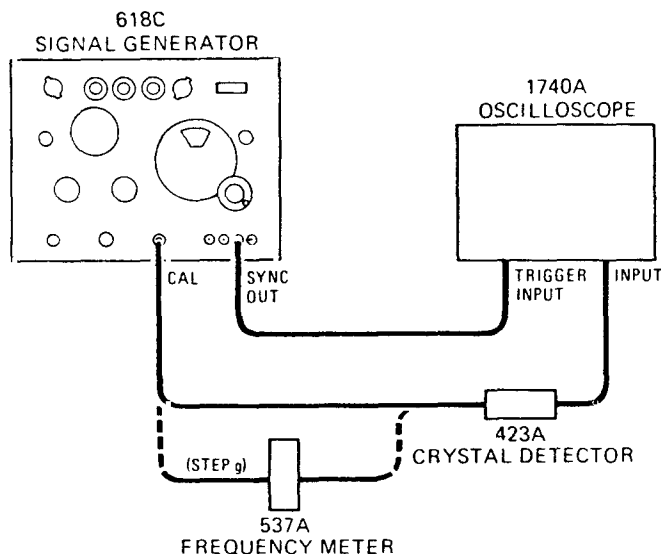
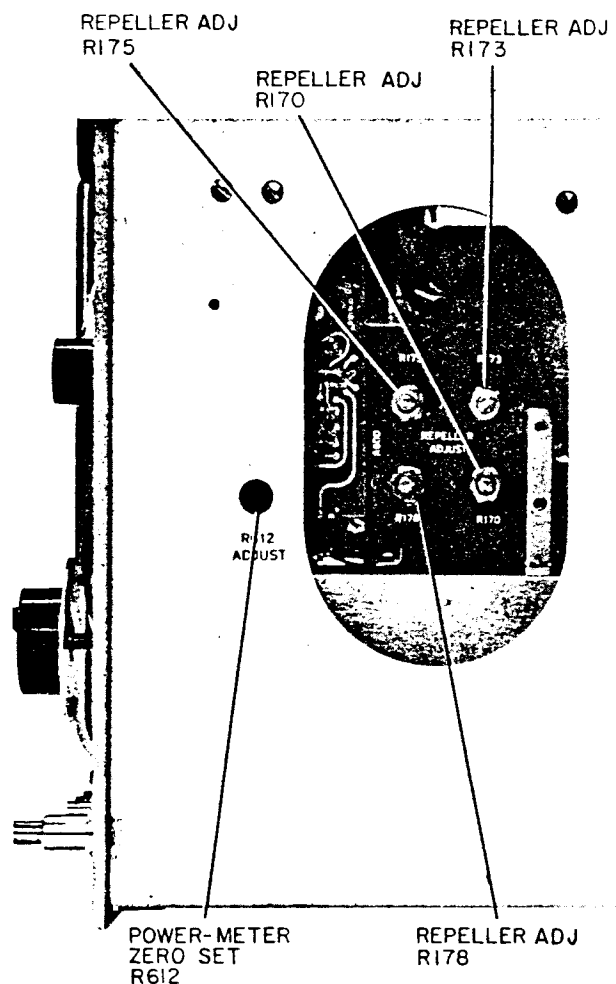
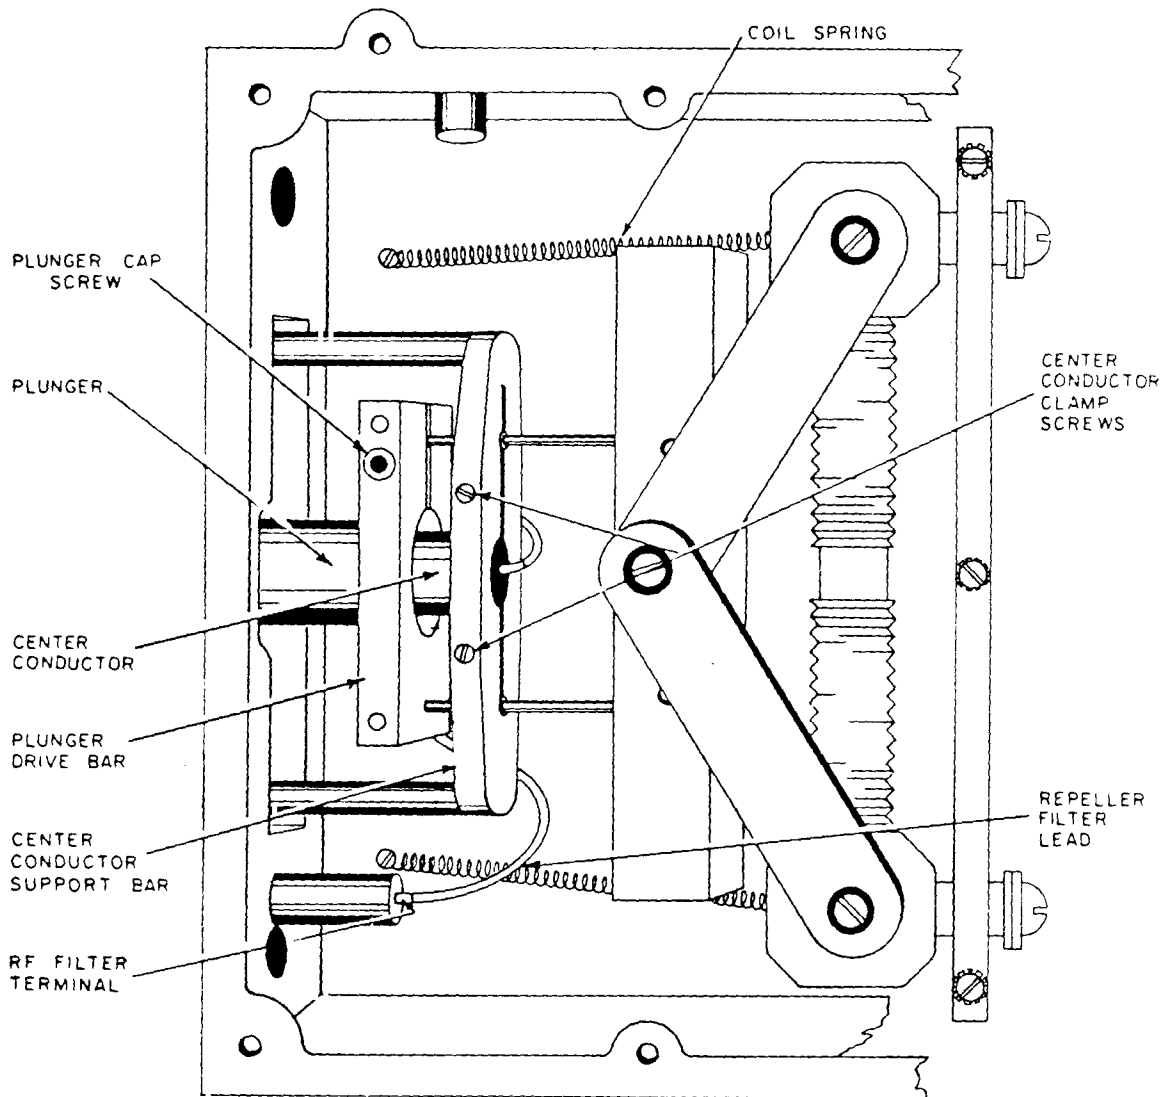

Figure 5-9. Setup for Frequency Dial Calibration (618C)
Figure 5-11. Location of Tracking and Power-Set Meter Adjustments
Figure 5-13. Frequency Drive Mechanism, Cover Plate Removed (620B)
- d. Connect instrument as shown in Figure 5-9.
- g. At this point it is advisable to check the dial calibration at the high end stop. This check avoids possible retracking adjustments when the dial calibration is adjusted later. To conduct the check, tune frequency control to high end stop and place wavemeter in circuit as shown in Figure 5-9. Wavemeter should indicate 7.650 GHz. When the wavemeter is tuned to the actual frequency of the generator a slight decrease in the peak level of the pulse appears on the scale. If this frequency is more than 25 MHz away from 7.650 GHz perform step d in paragraph 5-34.
- h. Remove wavemeter and reconnect output cable as shown in Figure 5-9. Tune the frequency control toward 5 GHz, adjusting R170 (Figure 5-11) for best pulse shape between 7.6 and 5 GHz.
- i. Tune the frequency control between 5 and 4.2 GHz; adjust R173 and/or R178 (Figure 5-11) for optimum pulse shape.
- e. Adjust POWER SET control to obtain up-scale indication on the power set meter. If necessary, adjust potentiometer R170 (Figure 5-11) to obtain proper meter indication. Recheck klystron beam current (25 mA maximum).
n. Measure Signal Generator output frequency with Frequency Meter. If the measured frequency is below 11.1 GHz, remove bottom plate from frequency drive mechanism and perform (1) through (4) following: if not, perform (5) through (9) following:
- (1) Loosen plunger cap screw (Figure 5-13).
- (2) Adjust Frequency Meter to 11.1 GHz.
- (3) Gently tap rear of plunger until Frequency Meter dip is centered on mode pattern.
- (4) Tighten plunger cap screw and replace bottom plate.
- (5) Set Frequency Meter to 11.1 GHz.
- (6) Adjust frequency dial until Frequency Meter pattern is centered on the mode pattern.
- (7) Loosen plunger cap screw.
- (8) Turn frequency dial to high frequency stop while holding plunger stationary.
- (9) Tighten plunger cap screw and replace bottom plate.
p. Tune Signal Generator across entire band and center repeller mode pattern with repeller tracking potentiometer R170, R173, R175, and R178 (Figure 5-9). Figure 5-12 (A and C) shows two typical mode patterns. Figure 5-12A shows a symmetrical mode pattern that is properly centered by the correct repeller voltage; Figure 5-12B shows the same pattern set off-center by incorrect setting of repeller voltage. Adjust potentiometer R170 and R178 (Figure 5-11) to obtain correct repeller voltage tracking between 11 GHz and the frequency just above the point where the microswitch is actuated (approximately 8.7 to 9 GHz). Adjust potentiometers R173 and R175 (Figure 5-11) to obtain correct repeller voltage tracking between the frequency just below the point where the microswitch is actuated (approximately 8.6 GHz) and 7 GHz.
h. Refer to Figure 5-13 and loosen the cap screw holding the plunger in the plunger-drive bar.
- a. Remove instrument cover for access to R612 (see Figure 5-11).
- c. Adjust POWER SET until meter pointer is about 3/8 inch to the right of zero (0).